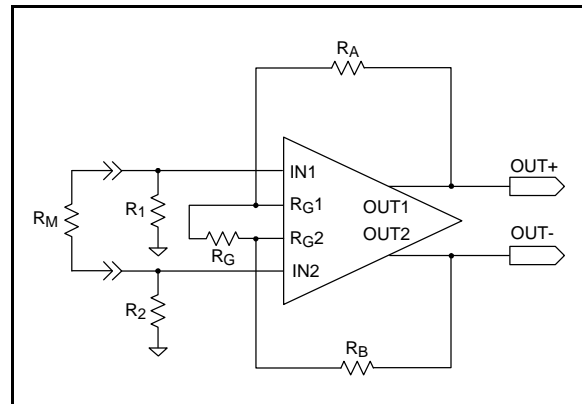
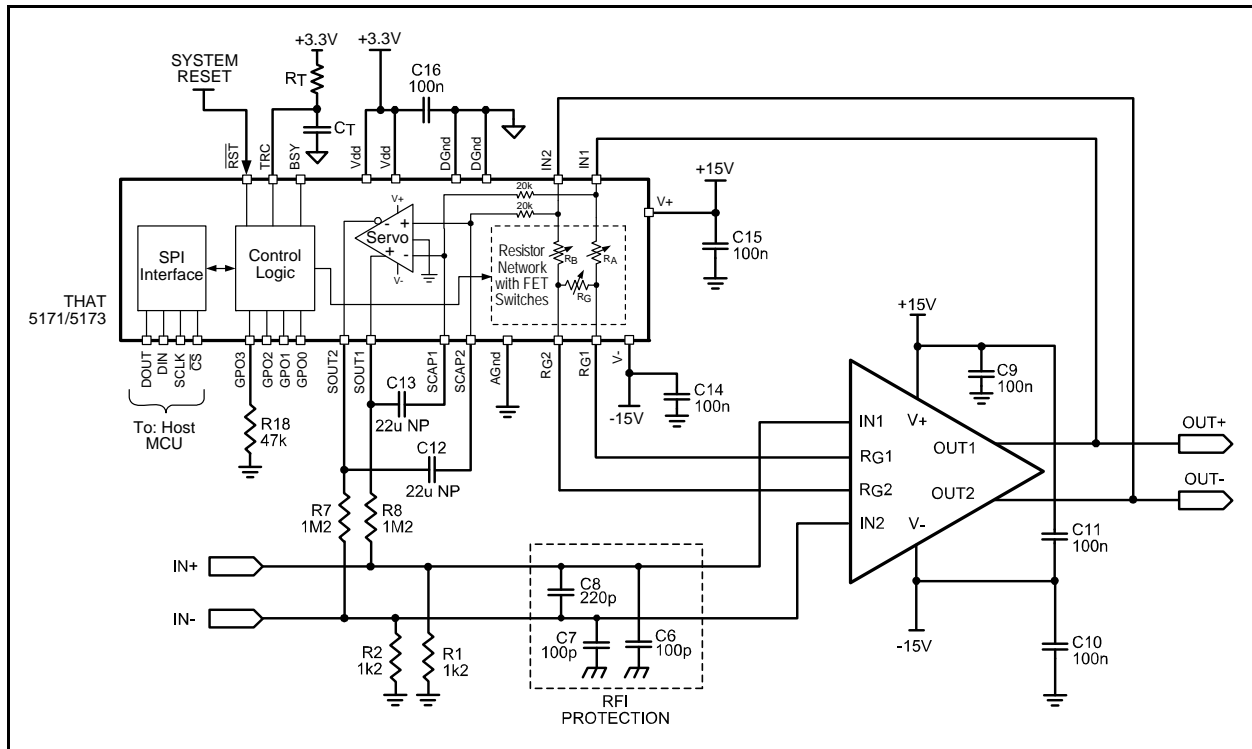

Figure 12. Simple THAT1583 Amplifier Circuit
Figure 17. Basic Application Circuit With THAT 5171/5173 Digital Controller
5. Unless otherwise noted, feedback resistors = 2.21 kΩ; C_L = 10 pF. Circuit is as shown in Figure 12.
Referring to Figure 12, the THAT1583's differential voltage gain (G) is set by the feedback resistors (R_A and R_B) and R_G , as shown in the following equation. The amplifier's minimum gain is unity (0 dB), which occurs with infinite R_G . The feedback resistors should nominally be equal, though tight tolerance matching is not required.
The noise performance of a preamplifier based on the 1583 is determined as the sum of several noise sources. These are as follows (refer to Figure 12 for component reference designators):
In the circuit of Figure 12, the amplifier's differential gain (G) extends to dc. As a result, the differential dc offset at the outputs will vary with gain. This can produce audible "thumps" when gain is varied quickly, and can produce significant and undesirable output dc offset at maximum gain. Any such offset will reduce the output voltage swing.
Figure 17 shows a THAT5171 or 5173 Digital Controller connected to the 1583. The controller varies R_A , R_B and R_G (from Figure 12) to produce the desired gain based on the gain command provided via the SPI control interface. The feedback network